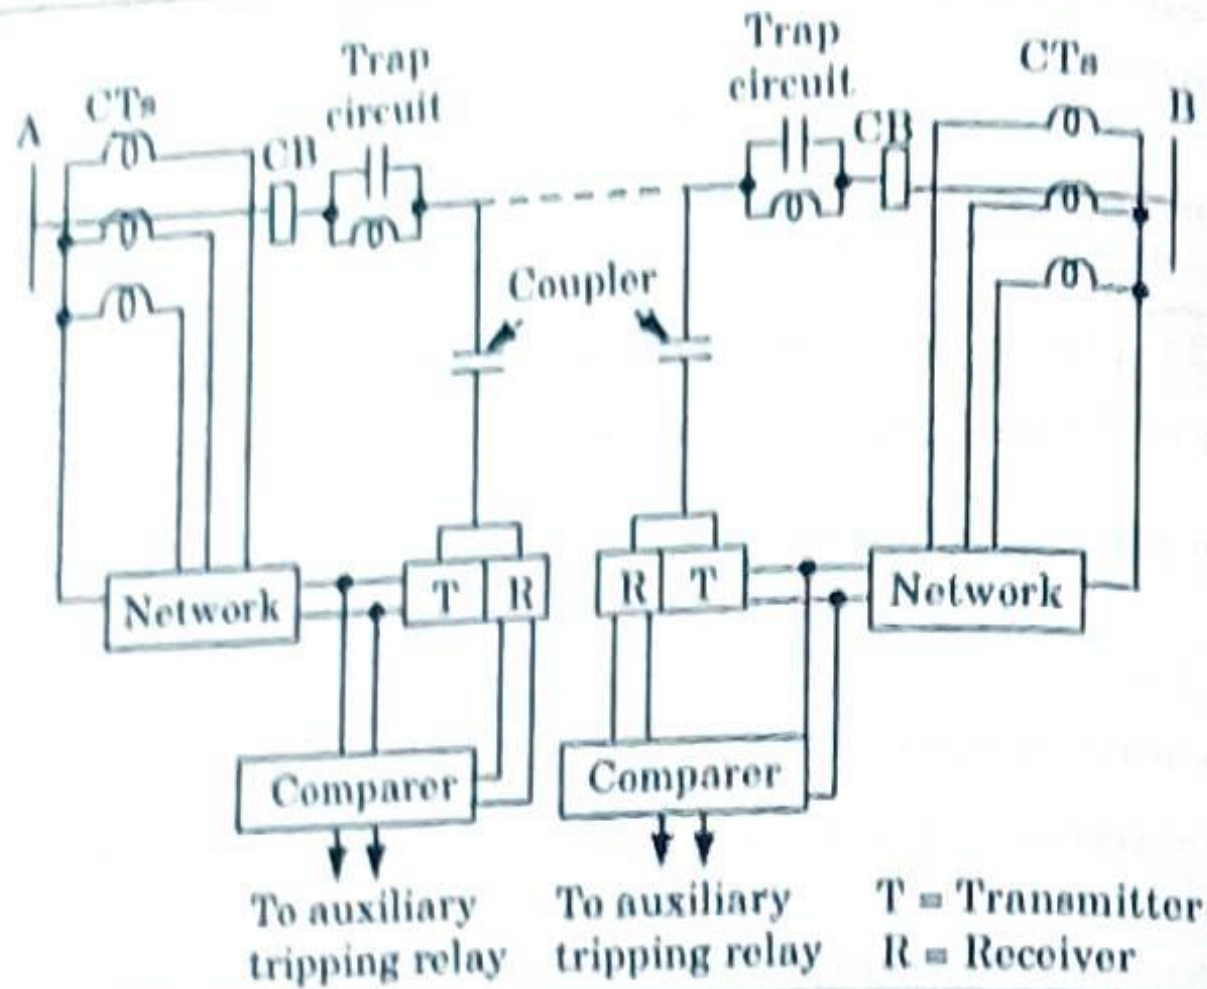
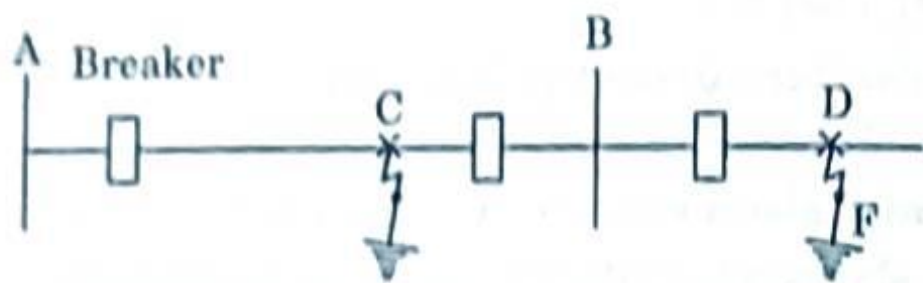

Fig. 3.21.1. Schematic of carrier phase comparison relay.
Fig. 3.21.2. Operation of carrier protection.
- Fig. 3.21.1 shows schematically the principal elements of equipment at both ends of a two-terminal transmission line using a carrier pilot.
- For an external fault at *D* in Fig. 3.21.1 the network output voltages at stations *A* and *B* are 180° out of phase as shown in Fig. 3.21.2; this is because the CT connections at the two stations are reversed.